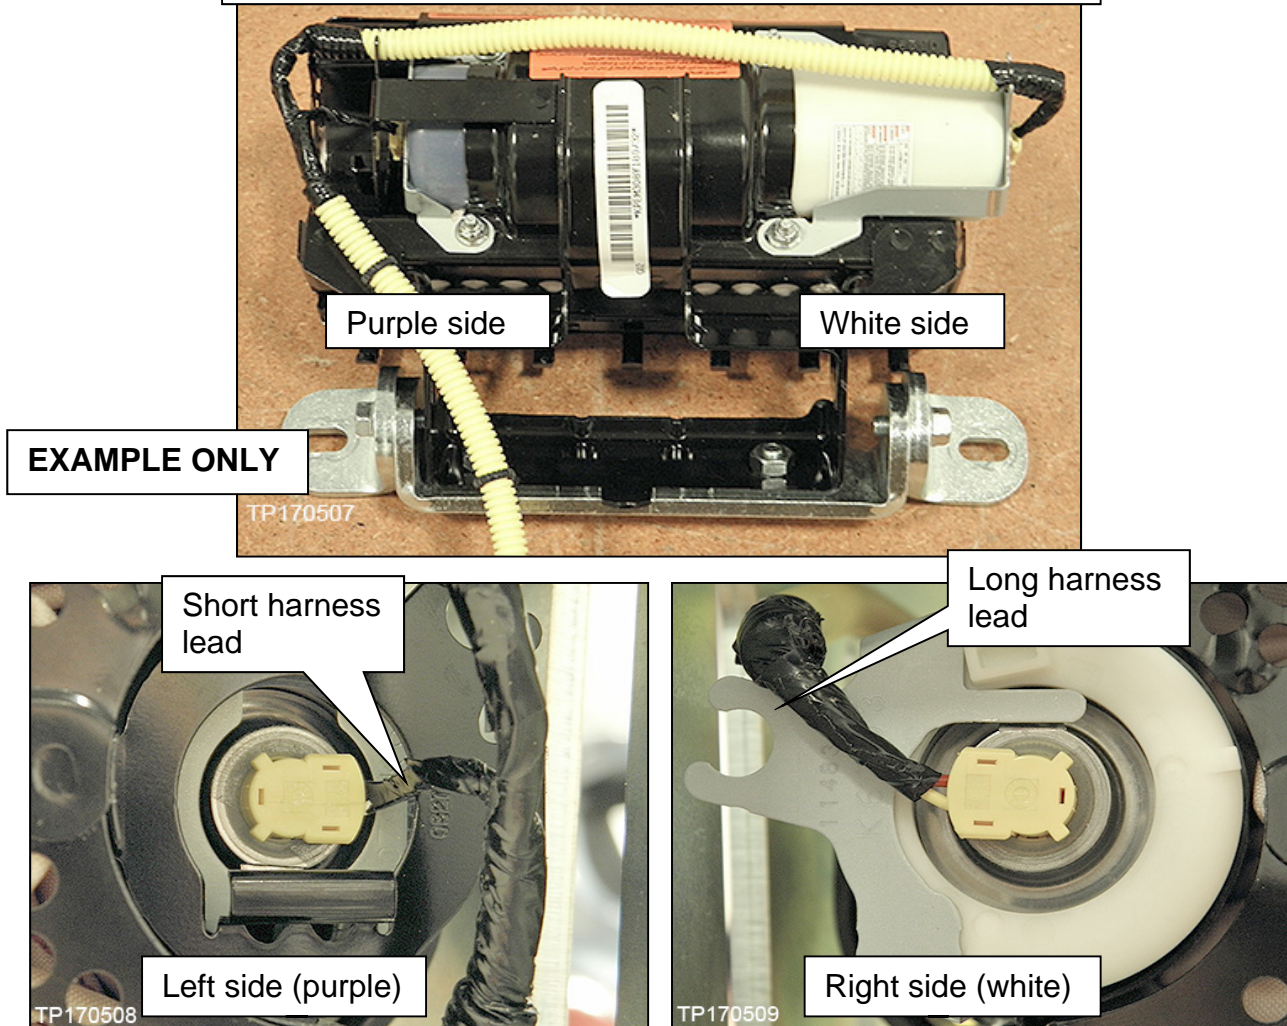
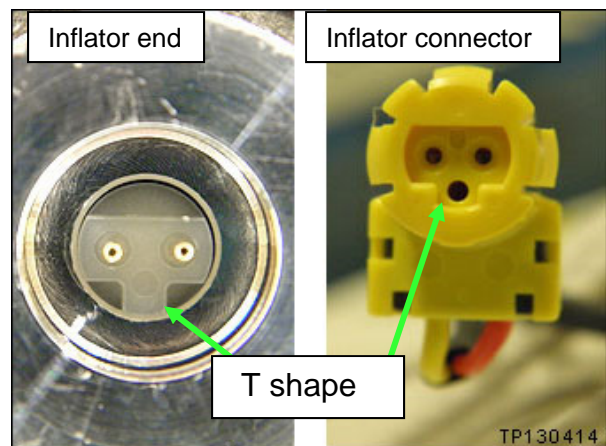
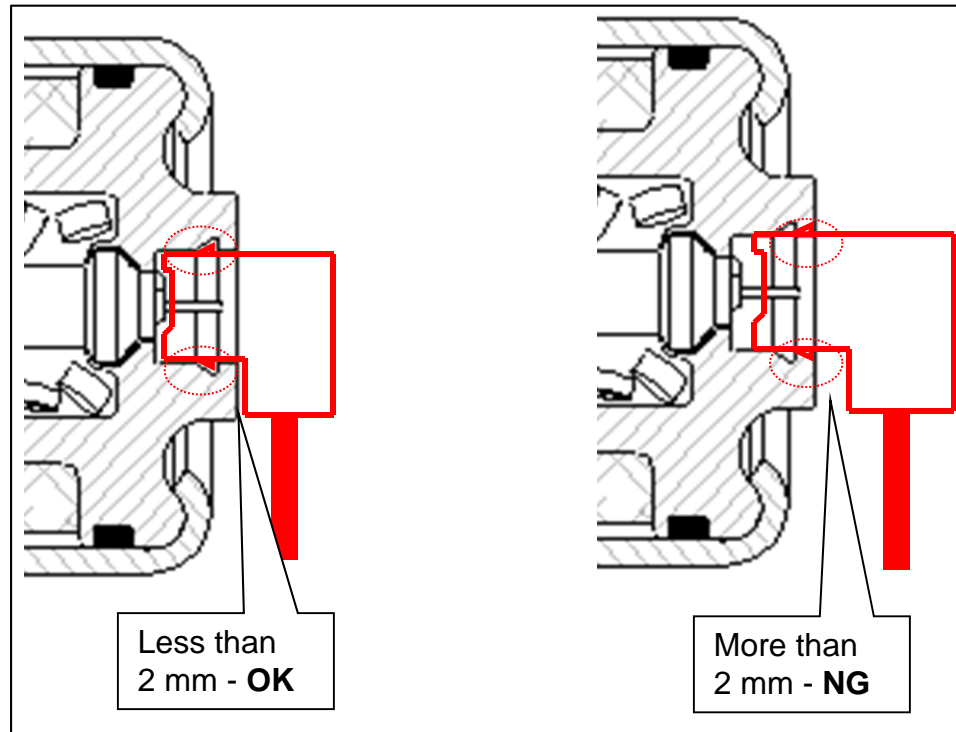

Figure 47
Figure 48
Figure 49
- Make sure to attach the harness correctly (Figure 47, Figure 48 and Figure 49).
- Make sure the inflator connectors are fully engaged / seated (Figure 49).